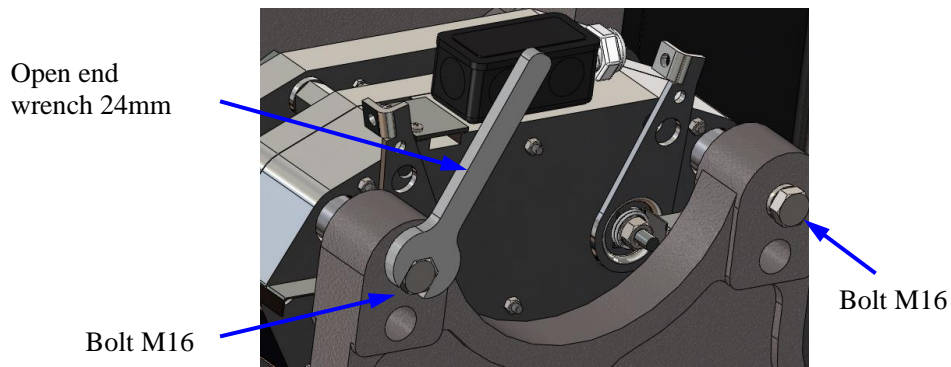

Figure 25: M16 Bolt removal
2. Use the open end wrench 24mm to remove the bolt M16. See Figure 25.